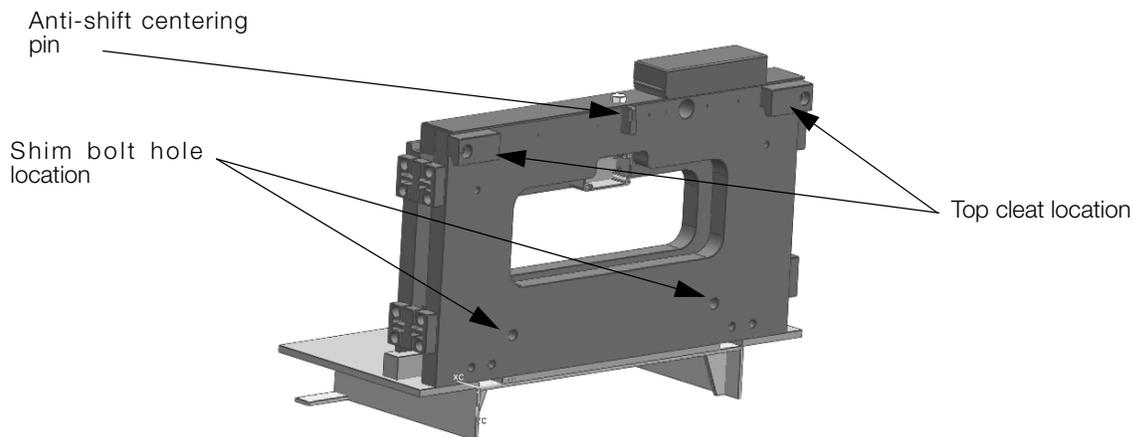

Figure 2-4. Removal of Steel Pallet and Top Cleat Locations
8. Carefully and slowly raise the scale carriage slightly so the top cleats (cleat location shown in Figure 2-4) of the scale hook onto the forklift carriage.